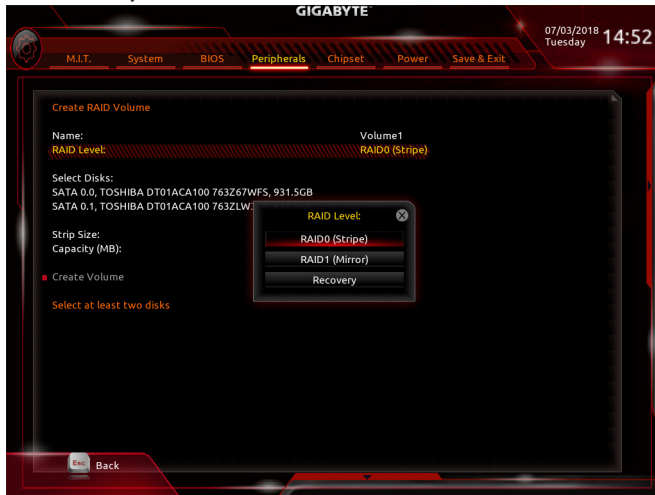

Figure 8
On the **Intel(R) Rapid Storage Technology** menu, press <Enter> on **Create RAID Volume** to enter the **Create RAID Volume** screen. Enter a volume name with 1~16 letters (letters cannot be special characters) under the **Name** item and press <Enter>. Then, select a **RAID level** (Figure 8). RAID levels supported include RAID 0, RAID 1, RAID 10, and RAID 5 (the selections available depend on the number of the hard drives being installed). Next, use the down arrow key to move to **Select Disks**.